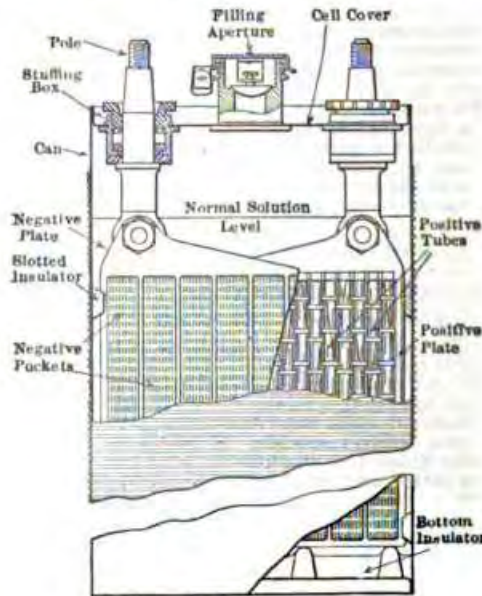

FIG. 53.—Edison cell construction.
**216. The assembly of the cell is shown in Fig. 53.** The plates are supported on hard-rubber spacing and insulating pieces. The lugs of the plates are punched and are mounted upon a steel pin with a terminal post. The ends of the pins are threaded and the plates, separated by washers, are held together by steel nuts. The elements are contained in a nickel-plated sheet-steel case, the walls of which are corrugated to add stiffness and also to assist in cooling the cells in action. The cover also is of